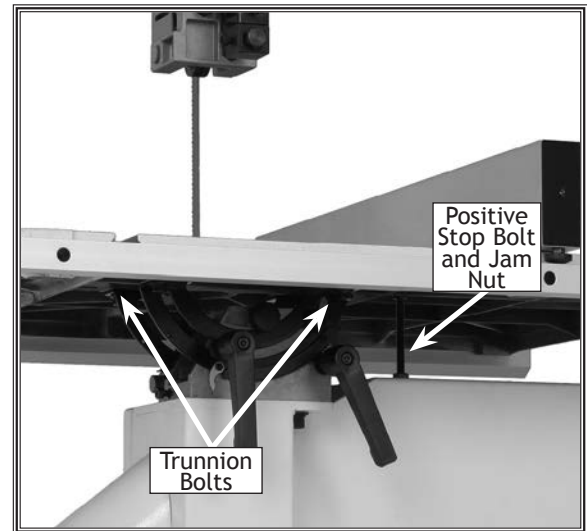

Figure 16. Table fasteners.
The table can be adjusted 45° to the right or 5° to the left. There is a positive stop bolt (see **Figure 16**) that mounts to the body, under the table. When adjusted correctly, this allows you to bring your table back to 0° after cutting at an angle. There is also an adjustable pointer mounted to the trunnion base. This works with the table trunnion gauge to show you the angle of table tilt.
2. Loosen the trunnion bolts under the table (see **Figure 16**).
5. Tighten the trunnion bolts under the table (see **Figure 16**).